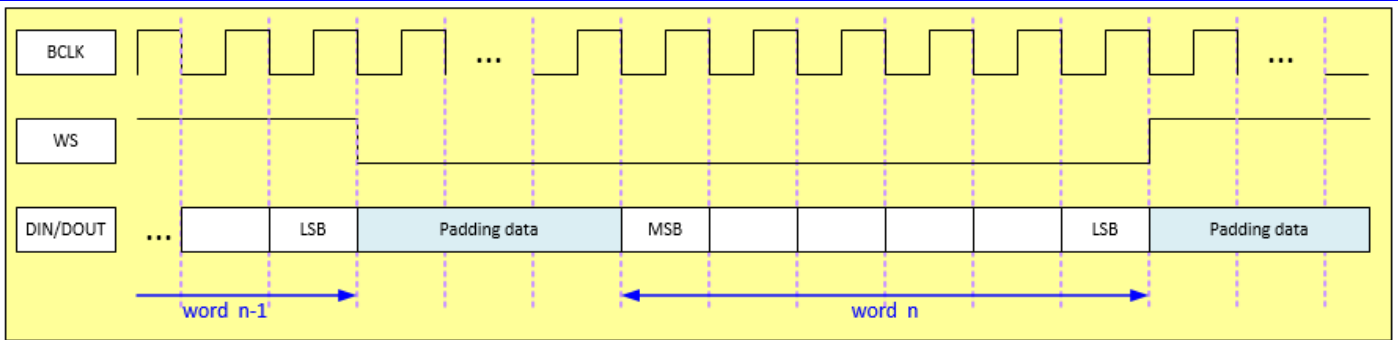

Figure 13-8. Possible Variation of I2S Frame Format (Right-justified)
- Figure 13-8 shows one variation of the I2S frame format. In this case, the width of the WS. is larger than the serial data bits. The valid data bit is right-justified to the whole frame. The extra padding data bits are inserted before the valid data bits. The number of the padding data bits is specified in PDL of control register 1. In this case, FSDIST is set to '0'.